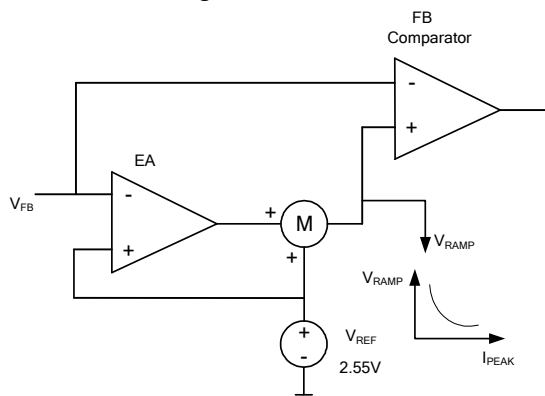

Figure 4: EA and Ramp Compensation
The MP171A has an internal error amplifier (EA) compensation loop (see Figure 4). It samples the feedback voltage 6μs after the MOSFET turns off, and regulates the output based on the 2.55V reference voltage.
An internal ramp compensation circuit improves the load regulation. An exponential voltage signal is added to pull down the feedback comparator's reference voltage (see Figure 4). The ramp compensation is a function of the load conditions; the compensation is about 1mV/μs under full-load conditions. The compensation increases exponentially as the peak current decreases.